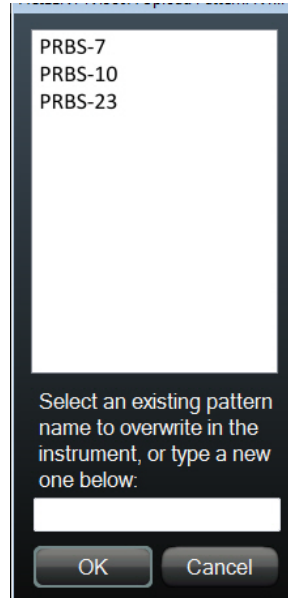

Figure 94. Upload Pattern dialog box
2. Under **Upload**, click on the **Upload Pattern...** button. The **Upload Pattern** dialog box is displayed as shown in Figure 94. It displays a list of the existing patterns in the instrument memory. Existing patterns can be overwritten.